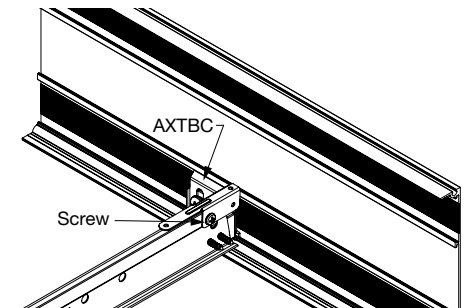

Fig 47
- Place a PAC over the bulb of the existing grid with the base side closest to the trim. Place so that the pilot hole on the top of the base end is located at the correct 6" O.C. increment to match the full-size panel dimension. (**NOTE:** with mains, the top pilot hole on the base will align directly above a rout hole). This PAC will provide a location that will act as the connection point for the intersecting grid members (**Fig 47**).